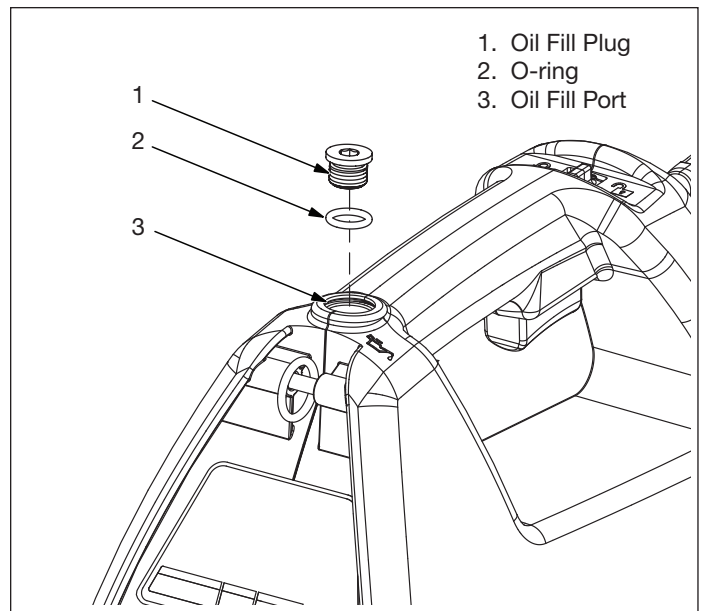

Figure 10, Oil Fill Plug
2. Verify that the pressure gauge indicates zero (0) psi/bar. Be certain that all hydraulic pressure is fully relieved before continuing this procedure. If any pressure remains, relieve pressure as described in Section 8.3.
5. Remove the oil fill plug and O-ring from the fill opening. Use a 7/8" Allen wrench. Be sure that the O-ring is removed with the oil fill plug. See Figure 10.